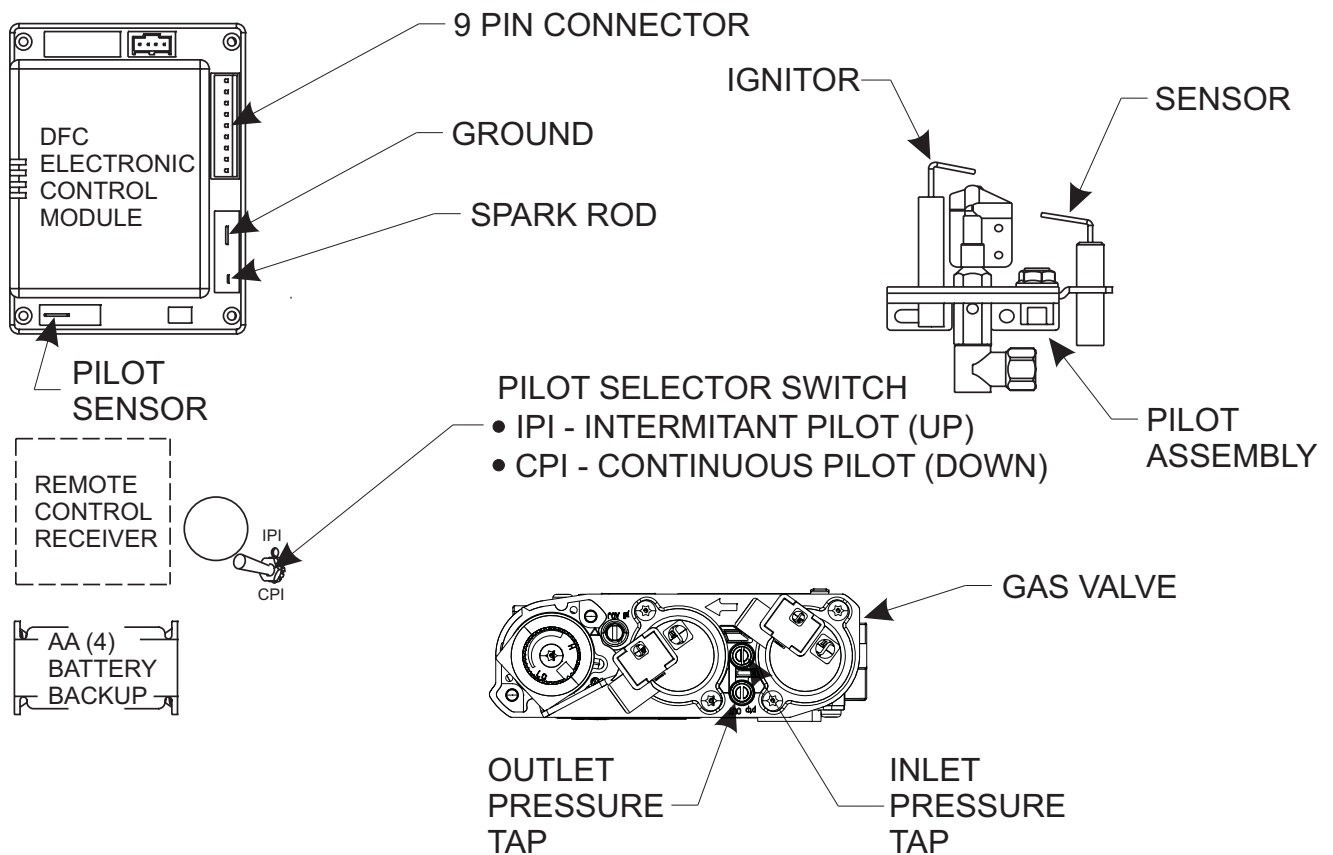

Figure 31
NOTE: A small toggle switch is located on a bracket that is used to switch from IPI (upward position) to the CPI (downward position). See Figure 31.
3. The gas valve has inlet and outlet pressure taps as shown in Figure 31. Refer to page 19 for gas pressure requirements.
NOTE: The gas control has a manual HI/LO flame adjustment knob (regulator) that allows you to increase or decrease the height of the burner flame. See Figure 31. Rotate the HI/LO knob counterclockwise to "HI" to increase the flame height, and clockwise to "LO" to decrease the flame height.